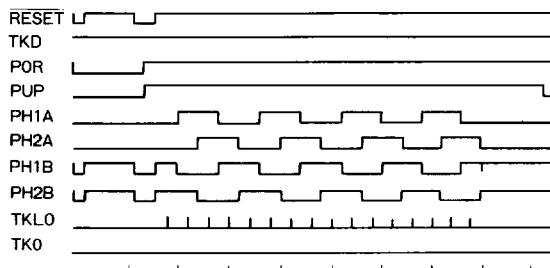

Fig.31
(12) RESTORE (Table16, Fig.31, 32参照)